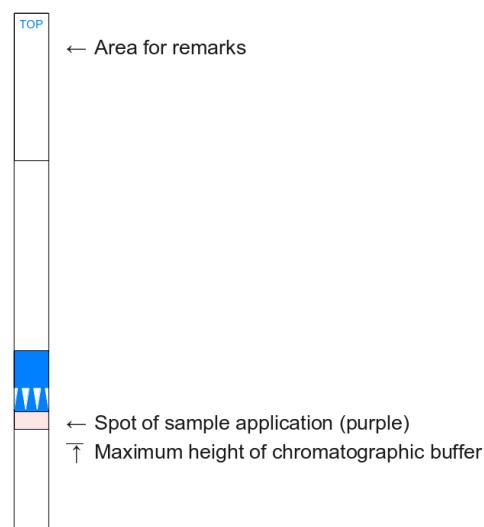

Fig. 1: Layout of the Lateral-Flow Dipsticks
Lateral-Flow Dipsticks (v. Fig. 1) are used for the detection. They consist of an area of sample application (purple), a membrane and an absorption area (white). With exception of the application area the whole strip is covered by a tape. The strip can be touched at the covered areas. Remarks should be made only on the tape above the absorption area.
Fig. 1 shows how to process the three specific detection reactions from one liquid culture. Three aliquots are processed in parallel and hybridized individually with the specific detection reactions, before they are detected on lateral-flow dipsticks.
3.	Pipet 10 µl of the hybridisation reaction onto the application area (purple, v. Fig. 1) of the corresponding LFD (sample with mix "E" onto LFD "E" etc.). A bleeding of the liquid is normal. Important: Mind the correlation of PCR vials and LFDs!